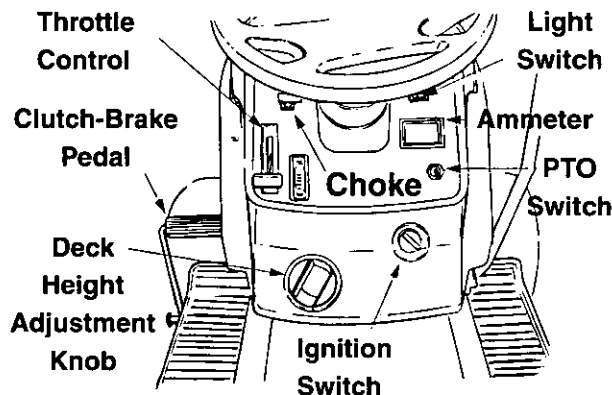

Figure 11
The ignition switch is located on the dashboard. Turn the key to the START position to start the engine. When the engine is running, leave the key in the ON position. To stop the engine, turn the key to the OFF position. See Figure 11.
The throttle control is located on the dashboard and is used to regulate the engine speed. To get maximum efficiency from cutting, the throttle should be in the **FAST** position when operating the mower. See Figure 11.
The choke control is located on the left side of the dashboard and is operated manually. Details for the choke operation are covered in the separate engine manual packed with your unit. See Figure 11.
The head lamps are operated by pushing the light switch located on the dashboard. The head lamps will only operate when the engine is running. See Figure 11.
The ammeter registers the rate of battery charge or discharge. The ammeter will register on the discharging side with starting the engine. It should register on the opposite side (charging) when the engine is running in the fast position until the battery is completely charged. With a fully charged battery or with the engine idling, the ammeter will not show a charge. See Figure 11.
The clutch-brake pedal is located on the left side of the tractor. See Figure 11. Depressing the pedal returns the drive unit to neutral (N) and applies the brake.